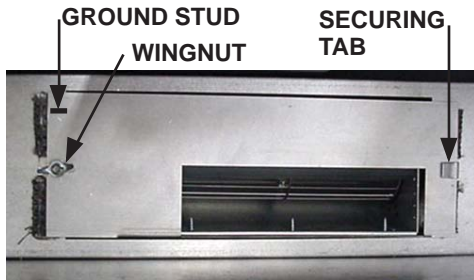
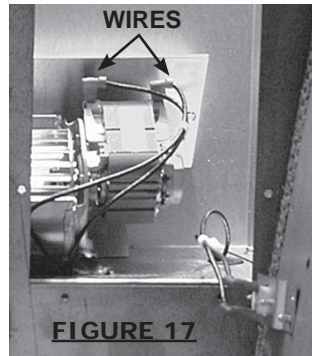

FIGURE 16
FIGURE 17
6. Reinstall the blower assembly making sure the blower bracket is seated under the securing tab. **FIGURE 16**. Reattach the wire connectors. **FIGURE 17**.